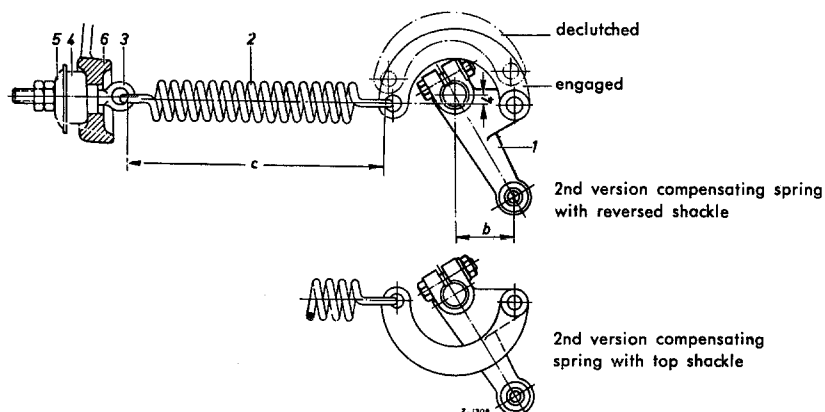

Fig. 29-5/5
end plate, attach the flange (8) to the jointing disk (9) and slide the rubber cuff (5) onto the end plate (2) (Fig. 29-5/1).
17. Install the clutch linkage. Attach the compensating spring (18) on the 2nd version and (18a) on the 3rd version and the return spring for the throw-out fork (Fig. 29-5/1). The distance between center pedal shaft downward to center compensating spring should be 4 mm in the case of the 3rd version shaft when the clutch is engaged (see Fig. 29-5/5).
The distance can be varied by changing the position of the end plate in relation to the transmission (see Fig. 29-5/1).